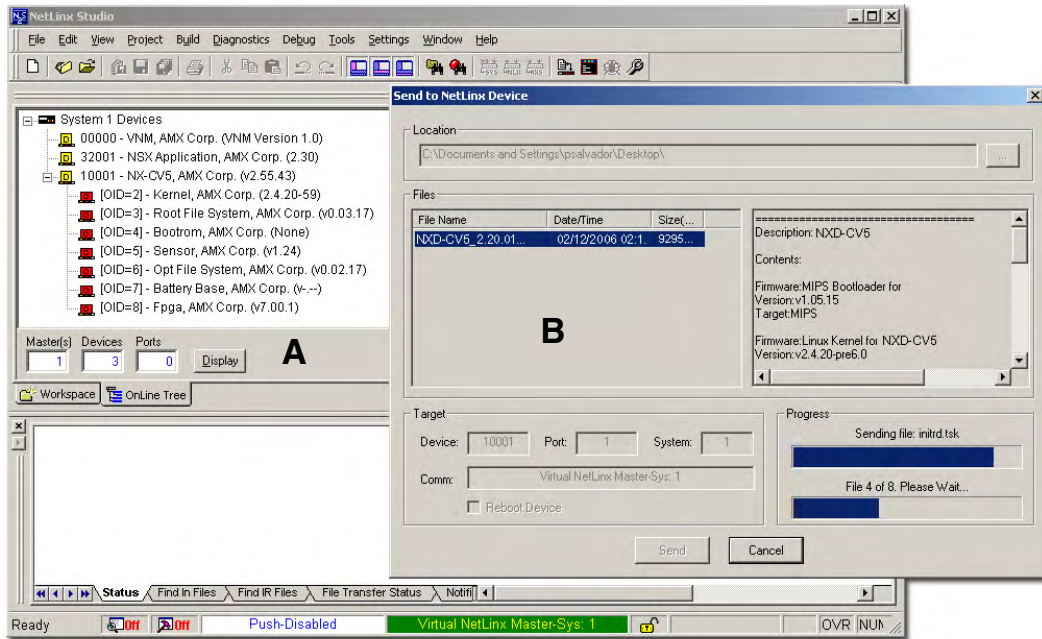

FIG. 49 Using USB for a Virtual Master transfer
- From within Studio, select **Tools > Firmware Transfers > Send to NetLinx Device** from the Main menu to open the Send to NetLinx Device dialog (B in FIG. 49). Verify the panel's System and Device number values match those values listed within the System folder in the **OnLine Tree** tab of the Workspace window (A in FIG. 49).
- Click **Send** to begin the transfer. The file transfer progress is indicated on the bottom-right of the dialog (B in FIG. 49).